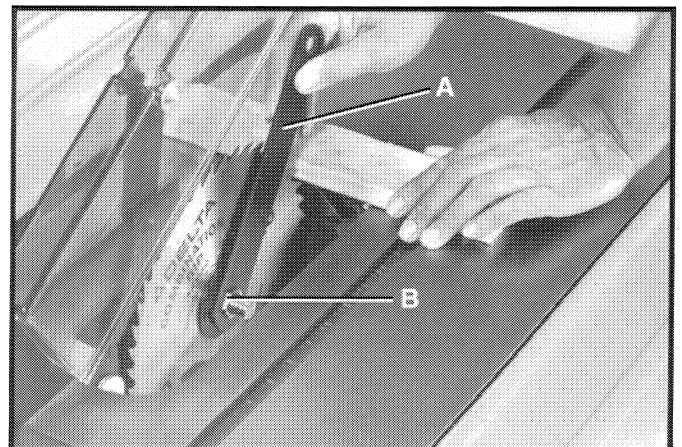

Fig. 82
3. Place a block of wood against the front of the saw blade as shown in Fig. 82, and using the arbor wrench (A) supplied with the saw, turn the arbor nut (B) toward the front of the saw. Remove arbor nut, blade flange and saw blade.